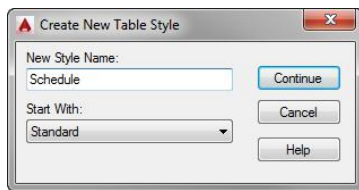

FIGURE 9.59: Naming the new table style
5. In the New Style Name text box, enter Schedule, as shown in Figure 9.59, to create a new table style name, and then click Continue.